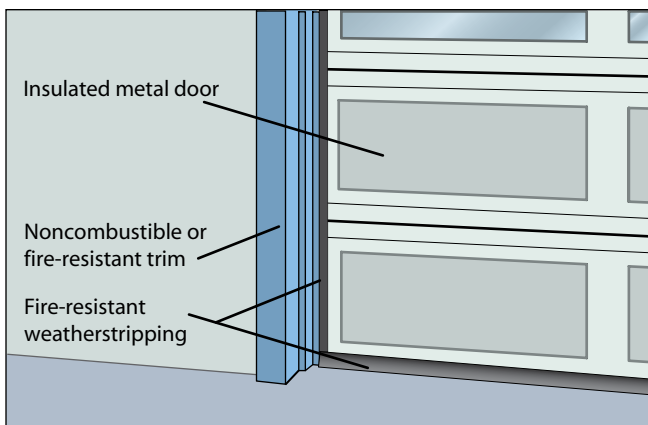

Figure 3. A garage door with noncombustible and fire-resistant components.
- Garage doors are typically made of wood, aluminum, or steel and are insulated or non-insulated. Unlike standard egress/ingress doors, garage doors are not normally tested for fire resistance (see Figure 3). To protect the garage door and entire building, follow the guidance listed below.